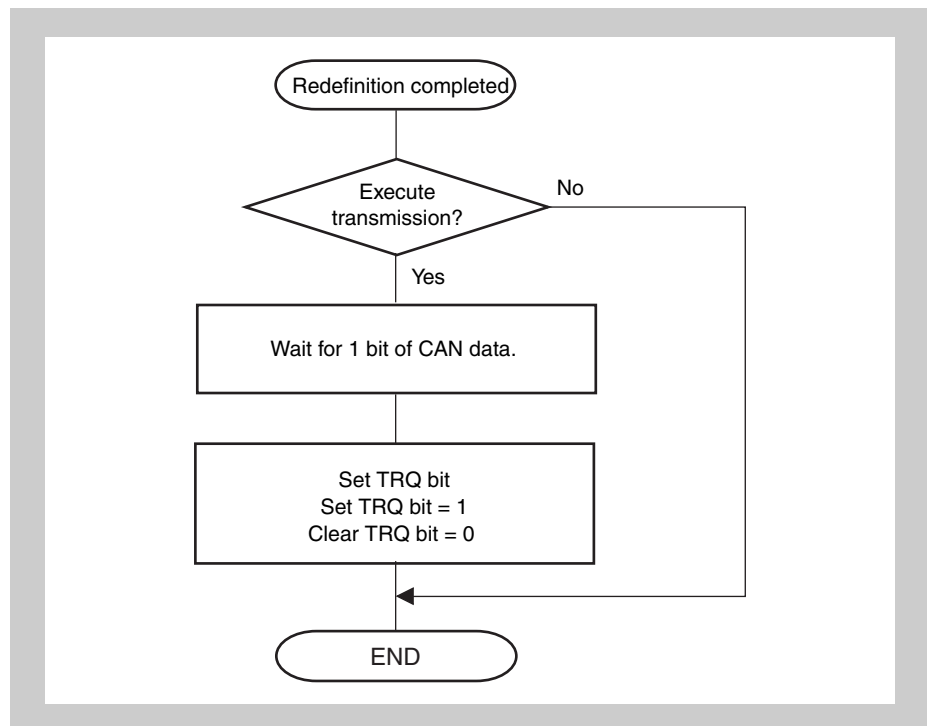

Figure 18-26 Setting transmission request (TRQ) to transmit message buffer after redefinition
2. When a message is transmitted, the transmission priority is checked in accordance with the ID, IDE, and RTR bits set to each transmit message buffer to which a transmission request was set. The transmit message buffer having the highest priority is selected for transmission. If the procedure in *Figure 18-26 on page 599* is not observed, a message with an ID not having the highest priority may be transmitted after redefinition.